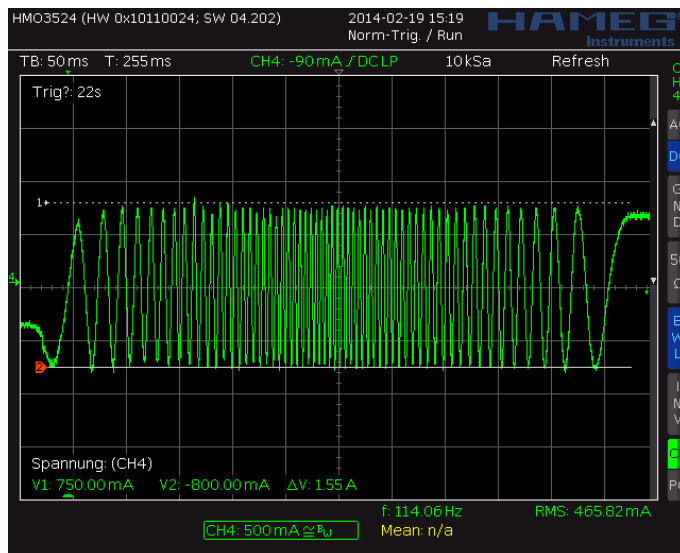
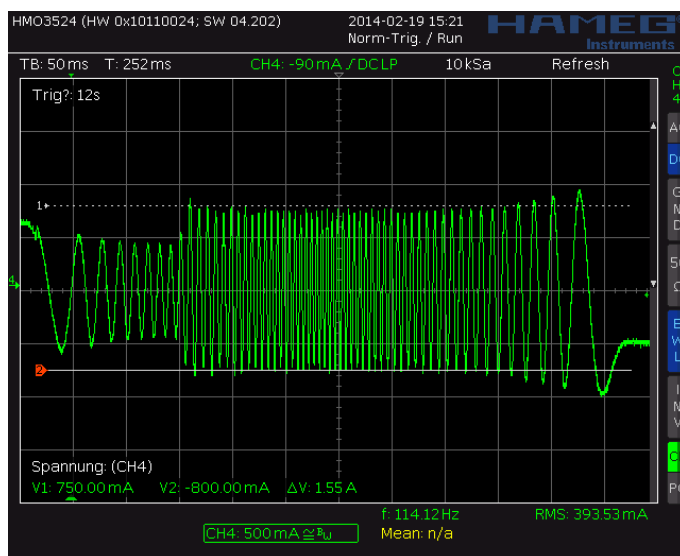
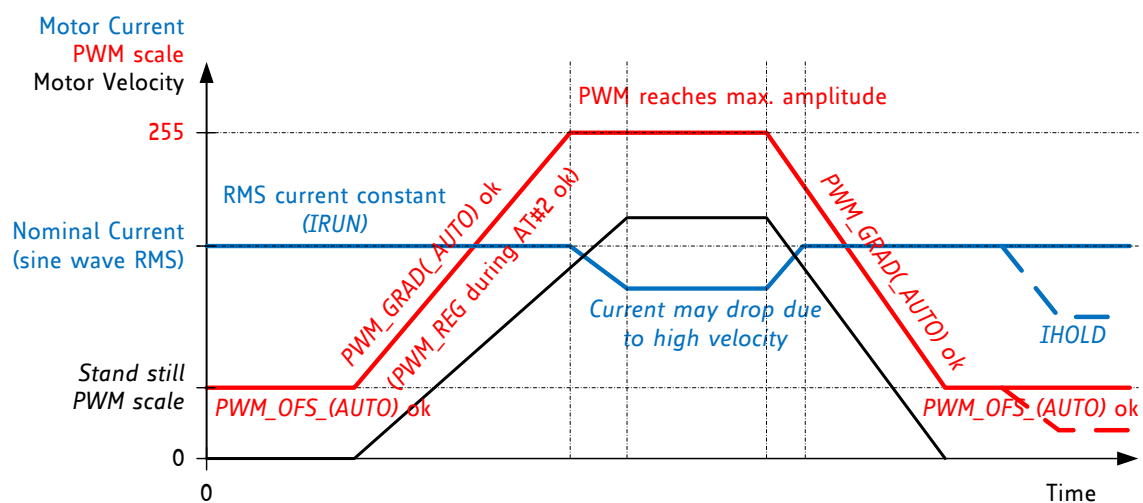

Figure 6.3 Scope shot: good setting for PWM_REG
Figure 6.4 Scope shot: too small setting for PWM_REG during AT#2
Figure 6.5 Successfully determined PWM_GRAD(AUTO) and PWM_OFs(AUTO)
In StealthChop voltage PWM mode, the autoscaling function ($pwm_autoscale = 1$, $pwm_auto_grad = 1$) regulates the motor current to the desired current setting. Automatic scaling is used as part of the automatic tuning process (AT), and for subsequent tracking of changes within the motor parameters. The driver measures the motor current during the chopper on time and uses a proportional regulator to regulate PWM_SCALE_AUTO in order match the motor current to the target current. PWM_REG is the proportionality coefficient for this regulator. Basically, the proportionality coefficient should be as small as possible in order to get a stable and soft regulation behavior, but it must be large enough to allow the driver to quickly react to changes caused by variation of the motor target current (e.g. change of VM). During initial tuning step AT#2, PWM_REG also compensates for the change of motor velocity. Therefore, a high acceleration during AT#2 will require a higher setting of PWM_REG . With careful selection of homing velocity and acceleration, a minimum setting of the regulation gradient often is sufficient ($PWM_REG=1$). PWM_REG setting should be optimized for the fastest required acceleration and deceleration ramp (compare Figure 6.3 and Figure 6.4). The quality of the setting PWM_REG in phase AT#2 and the finished automatic tuning procedure (or non-automatic settings for PWM_OFS and PWM_GRAD) can be examined when monitoring motor current during an acceleration phase Figure 6.5.